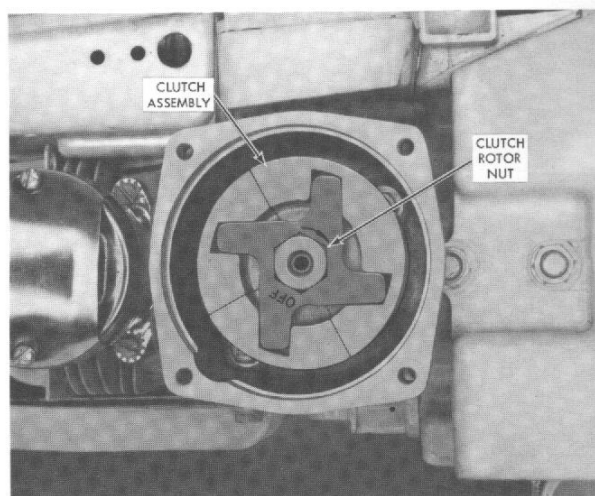

Figure 8. Installation of Clutch
8. Reinstall the clutch assembly (rotor, spring, and shoes) in the Accessory Adapter as shown in Figure 8. Tighten the rotor nut to 25 foot-pounds torque (240-300 inch-pounds). Remove the flywheel locking pin.